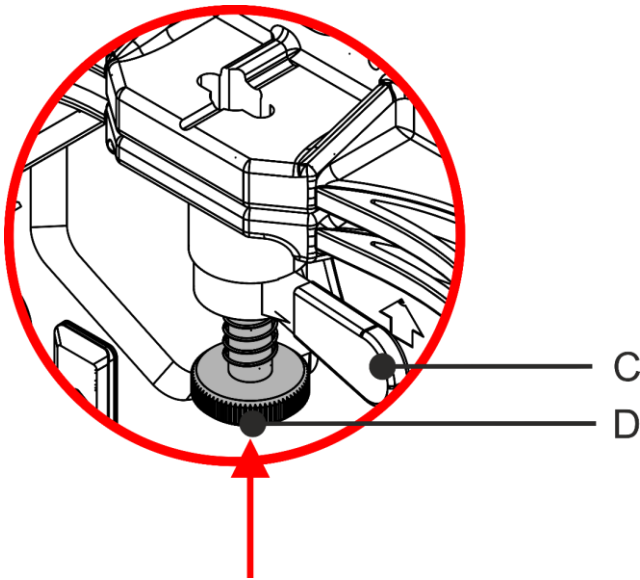

Fig. 24
- 01) Turn the **lever (C)** counterclockwise.
- 02) Push the **locking mechanism (03)** and turn it by 90° clockwise or counterclockwise, as shown in Fig. 24 and 25.